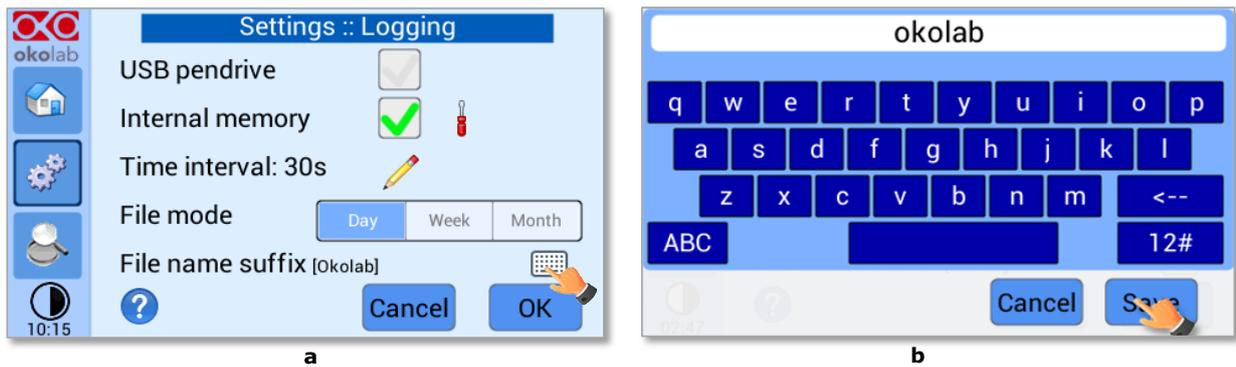
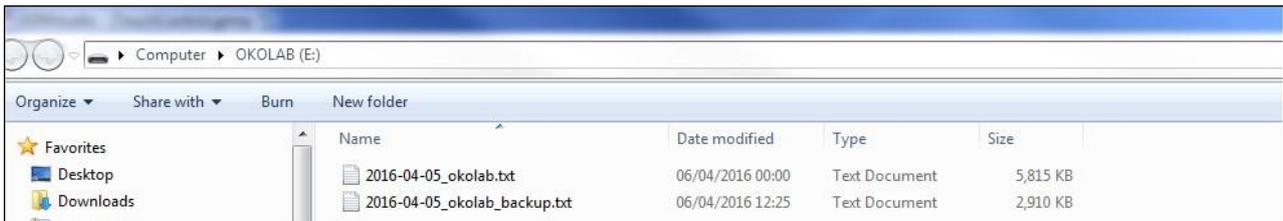

Figure 39. Data Logging. How to define the suffix for the downloaded files (a – b).
Figure 40. Downloaded files on the pen drive.
- Write the file name suffix to be reported in the downloaded files by pressing on the keyboard icon , see Figure 39 a.
- Press Save, see Figure 39 b.
Tip ► With the selections as in Figure 38 and in Figure 39, the data will be downloaded on the USB drive as shown in Figure 40.